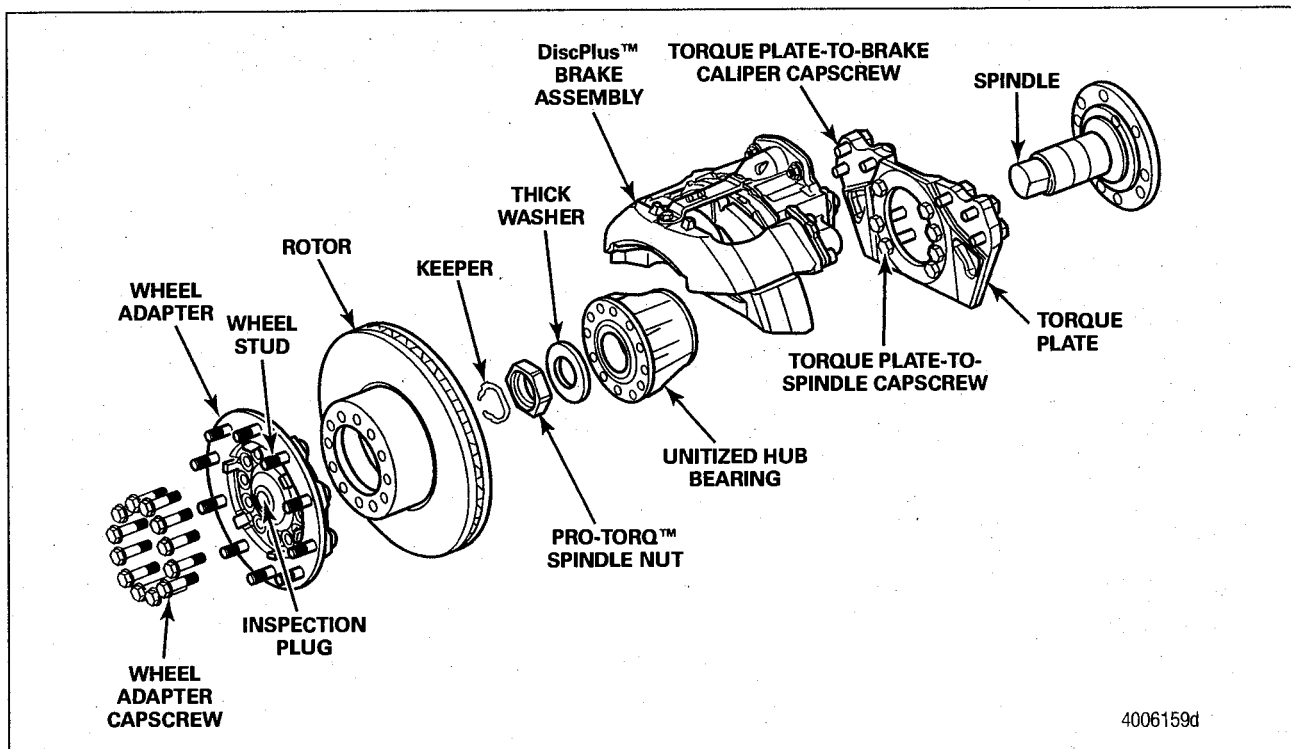

Figure 1
Refer to Figure 1 for an illustration of the MC16 Series tag axle wheel end.
1. Remove the 10 wheel adapter bolts. Figure 1.
1. Remove the torque plate-to-spindle flange fasteners. Figure 1.